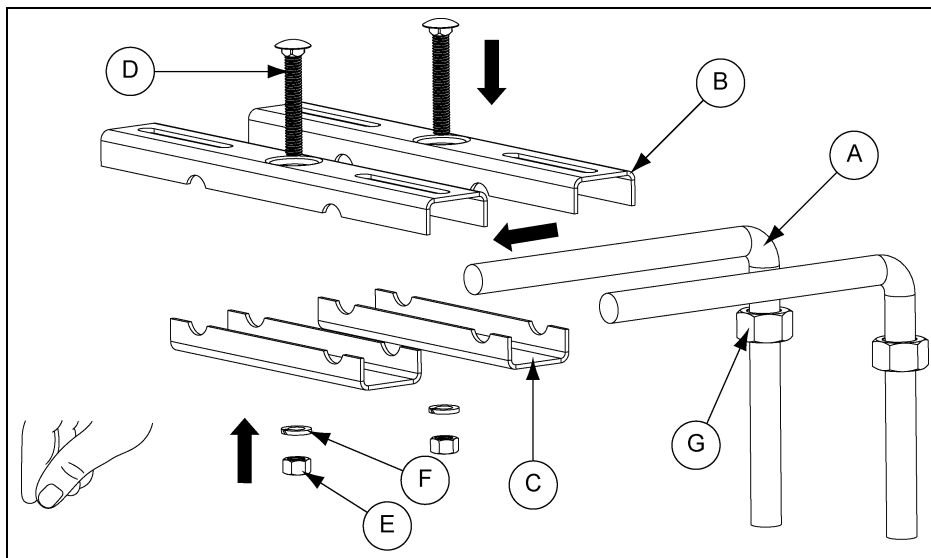

Figure 4P
Step 16: Assemble motor mount. (See Figure 4P.)